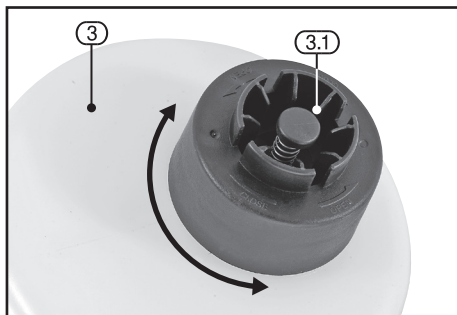

FIG.4
8.2 FILLING WITH WATER – FIGS. 4 – 6
- Remove the water reservoir (3) from the base of the machine.